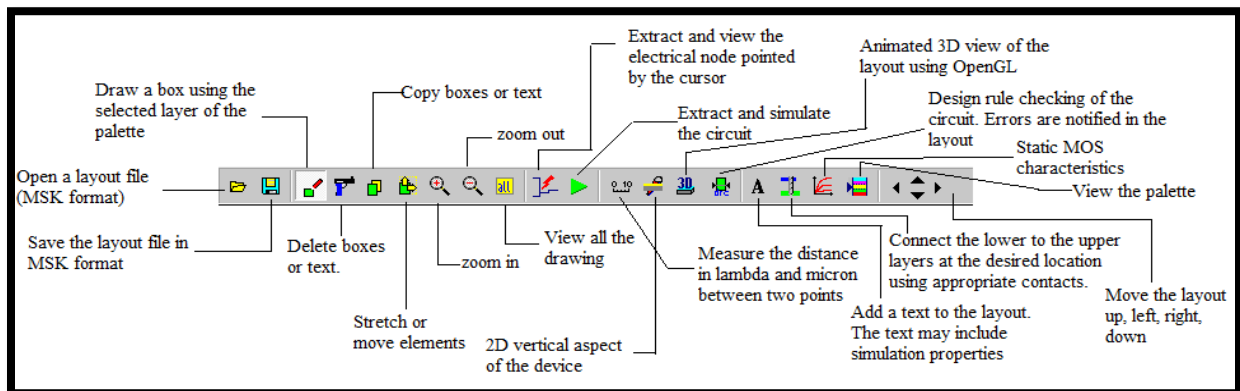

Figure 17: list of icons
- The same way for PMOS transistor. See figure 17.